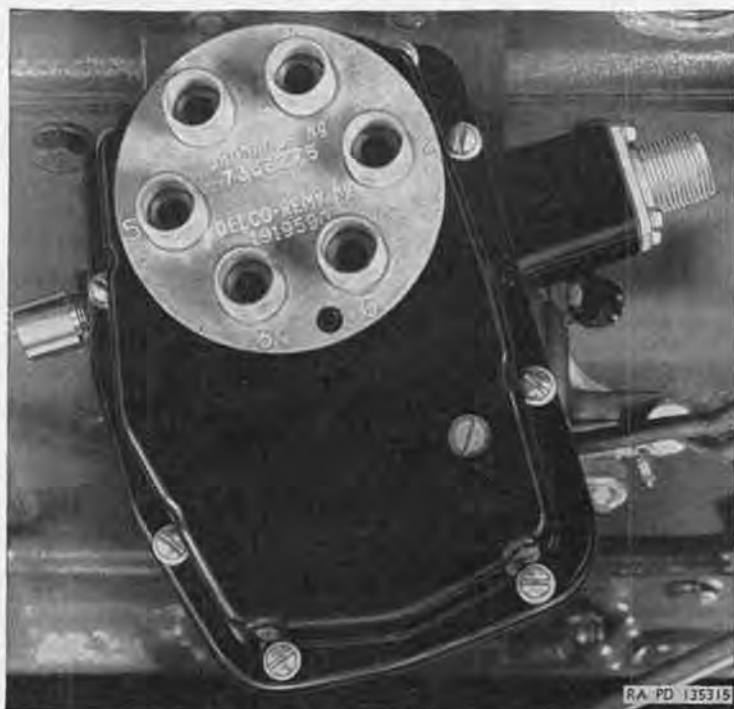
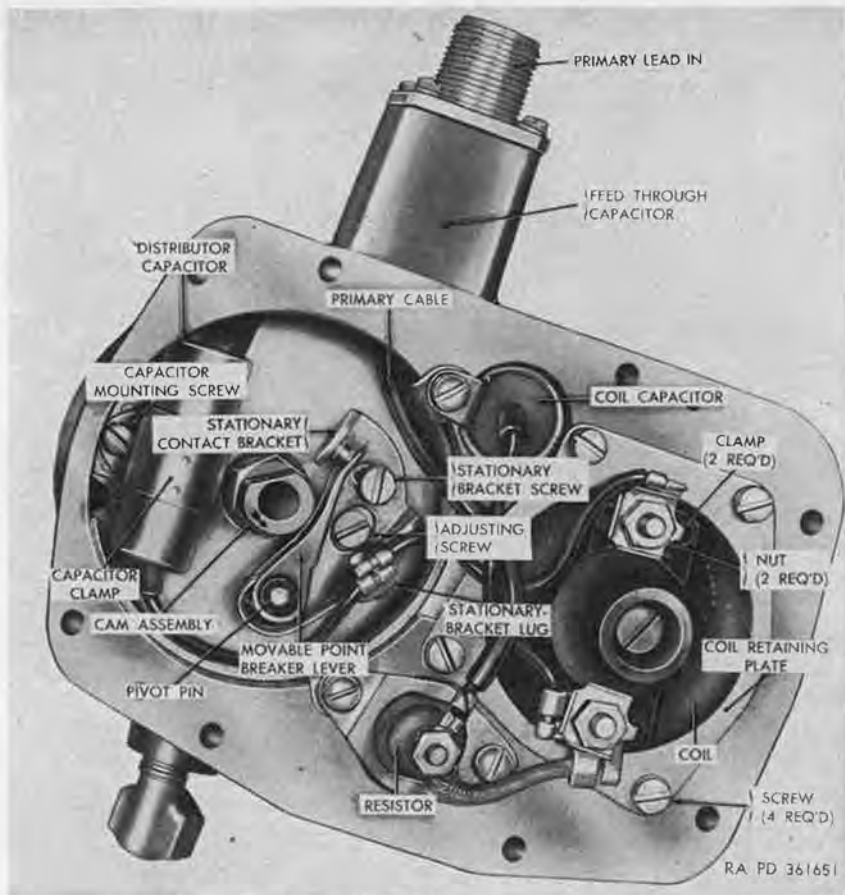
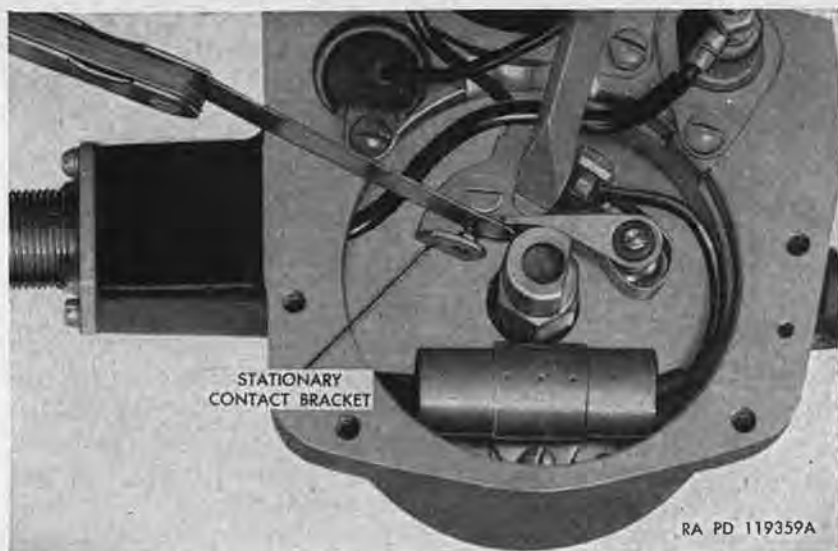

Figure 175. Top view of cover assembly installed on distributor.
Figure 176. Top view of distributor with cover removed.
Figure 178. Checking and setting distributor contact point gap.
(1) Inspection and test.
- (a) *Inspect points.* Remove eight screws and lockwashers securing distributor cover assembly to distributor (fig. 175), and remove cover. Remove and discard cover gasket. Lift rotor from breaker cam assembly (fig. 176), push breaker lever away from cam, and examine contact points for pitting, burning, or wear. If the points are slightly pitted or burned, dress them with a contact point dresser
(a) Turn engine in small increments using starter (by momentarily depressing starter button with ignition switch in the OFF position) until high point of cam assembly (fig. 176) holds breaker lever so as to maintain maximum gap between contact points.
(b) Using a feeler gage (fig. 178), check the maximum gap between the contact points, being sure that the points are correctly aligned and are not sufficiently pitted to cause measurement of the gap between the point faces to be inaccurate. It is important that the gap between the points be 0.022 inch. If the gap requires adjustment, loosen the stationary bracket screw (fig. 176) and turn the adjusting screw (fig. 176) until correct gap is obtained. Tighten stationary bracket screw.
(a) Remove eight screws and lockwashers securing distributor cover assembly to distributor (fig. 175) and remove cover. Remove and discard cover gasket.
- (b) Remove rotor from cam assembly (fig. 176).
- (c) Remove screw and nut securing breaker-plate-capacitor cable terminal and stationary-bracket-to-coil cable terminal to stationary bracket lug (fig. 176), and remove cables from lug.
- (d) Lift breaker lever (fig. 176) from pivot pin.
- (e) Remove stationary bracket screw (fig. 176) and lift stationary bracket from pivot pin.
- (4) *Installation.*
- (a) Position stationary bracket (fig. 176) on pivot pin and install stationary bracket screw. Do not tighten screw.
- (b) Place two drops of engine oil on pivot pin (fig. 176) and position breaker lever on pivot pin so that the breaker lever spring is on the side of the stationary-bracket lug (fig. 176) toward the cam assembly.
- (d) Adjust breaker point gap ((2) above).
- (g) Place new gasket on top of distributor housing, position cover on distributor, and install eight screws and lockwashers (fig. 175). Tighten screws.
- b. *Distributor Breaker Plate Capacitor (Condenser)* (fig. 176).
- (1) *Removal.* Remove screw and nut securing breaker-plate-capacitor cable terminal to stationary bracket lug and remove cable. Remove screw and lockwasher securing capacitor clamp to breaker plate, and lift capacitor and clamp from plate. Slide clamp off capacitor.
- (2) *Installation.* Slide capacitor clamp on capacitor and position capacitor and clamp on breaker plate. Insert screw and lockwasher in hole in clamp and breaker plate and tighten screw. Position capacitor cable terminal and stationary-bracket-to-coil cable terminal at stationary bracket lug, and insert terminal screw in lug. Install nut on screw and, holding breaker lever spring down so notch in spring makes good contact with terminal screw, tighten.
- c. *Ignition Coil* (fig. 176).
- (1) *Removal.* With distributor cover removed, remove two nuts and clamps from terminals on top of coil and remove the three cables from the terminals. Remove four screws securing coil retaining plate to distributor housing and remove plate. Lift coil from distributor housing and remove and discard coil gasket from recess in housing.
- (2) *Installation.* Place a new coil gasket in recess in distributor housing, and install coil in housing. Position coil retaining plate on top of coil, install four screws in holes in plate, and tighten.
stall eight screws and lockwashers (fig. 175). Tighten screws securely.
- (f) Position distributor primary wire (F) at primary lead-in on rear of distributor and tighten connector (E).
- (g) Position distributor vent line (C) at elbow on front of distributor and tighten nut (B).
- (h) Insert ends of spark plug cables in cable sockets (corresponding to spark plug numbers in distributor cover (fig. 175), and tighten connectors.